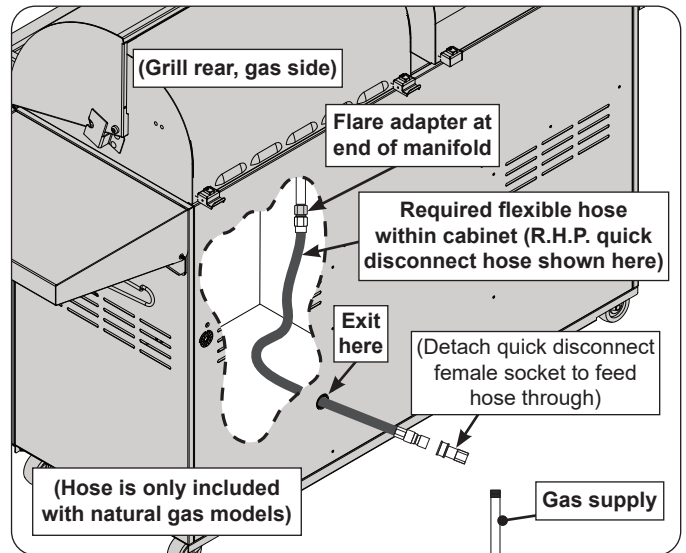

Fig. 18-1 Flexible hose assembly detail
2. **Household propane only:** A regulator hose assembly designed for L.P. cylinders comes pre-installed to the unit valve manifold. First remove this assembly from the flare adapter (at end of manifold), and then install a quick disconnect hose or similar (purchased separately) to the adapter. (An R.H.P. quick disconnect hose is recommended - see third bullet above.) Use a pipe joint compound resistant to all gasses on all NPT pipe fittings except flare fittings. Reference Fig. 18-1. Then proceed to step 3.
3. Route the quick disconnect hose (or similar) out of the hole in the rear bottom right of the cabinet, and to the gas supply (see Fig. 18-1).